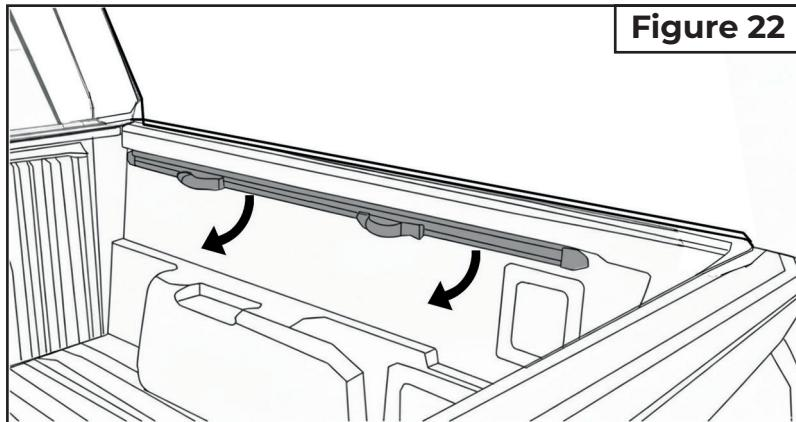
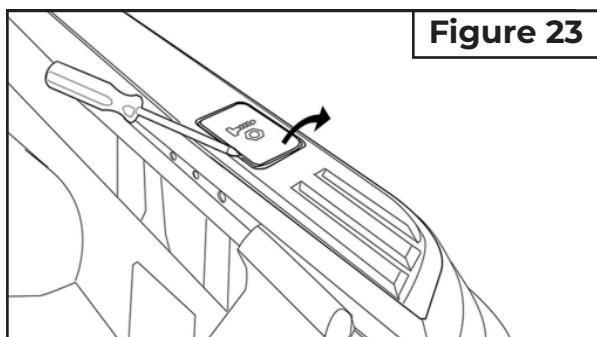
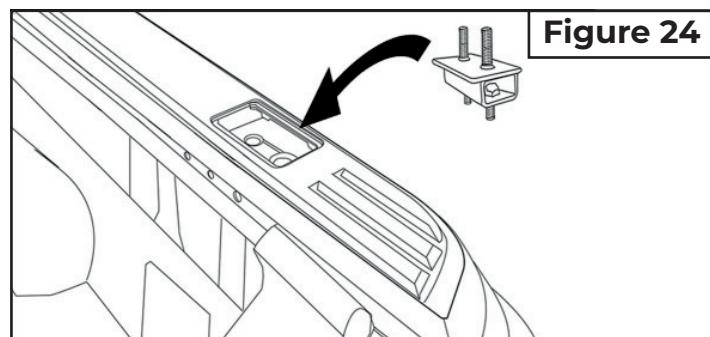

Figure 22
Figure 23
Figure 24
17. Remove the C-channel (**Fig. 22**). Remove the plastic plugs. (**Fig. 23**). Locate the contents found in Parts Kit #2 (Item #7) and correctly place each labeled bottom clamp on both bed rails (**Fig. 24**). Use a 10mm socket to initially tighten the clamps, then torque to 5Nm (3.7ft-lbs). The tightened clamp should resemble (**Fig. 25**).